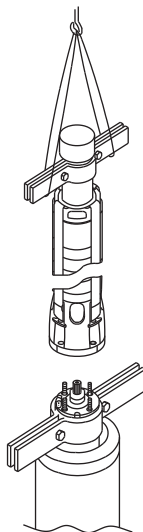

Fig. 5 Lifting the pump into position
3. Lift the pump part by means of pipe clamps fitted to the extension pipe, see fig. 5.